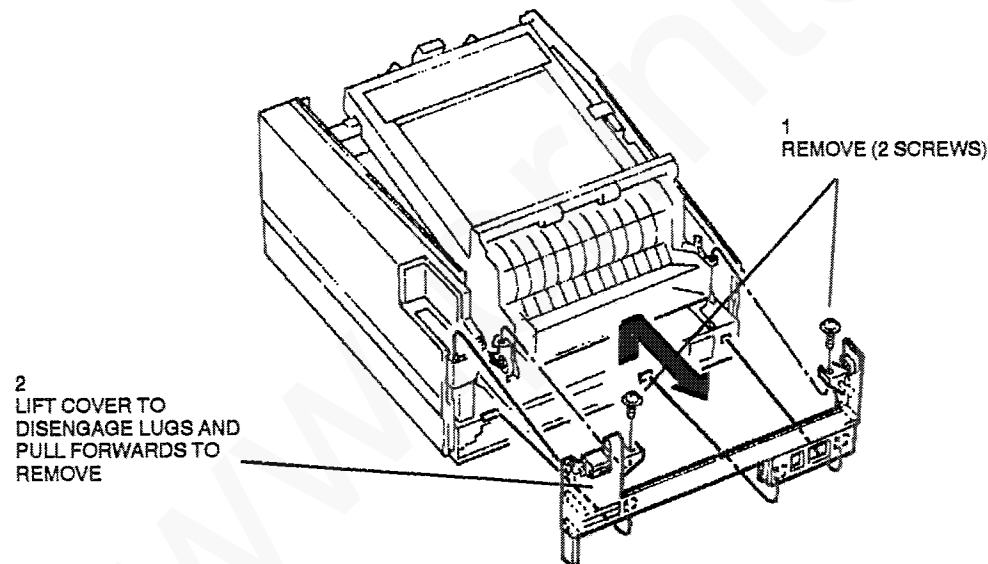

Figure 1. Rear cover removal
8. (Figure 1) Remove the rear cover.